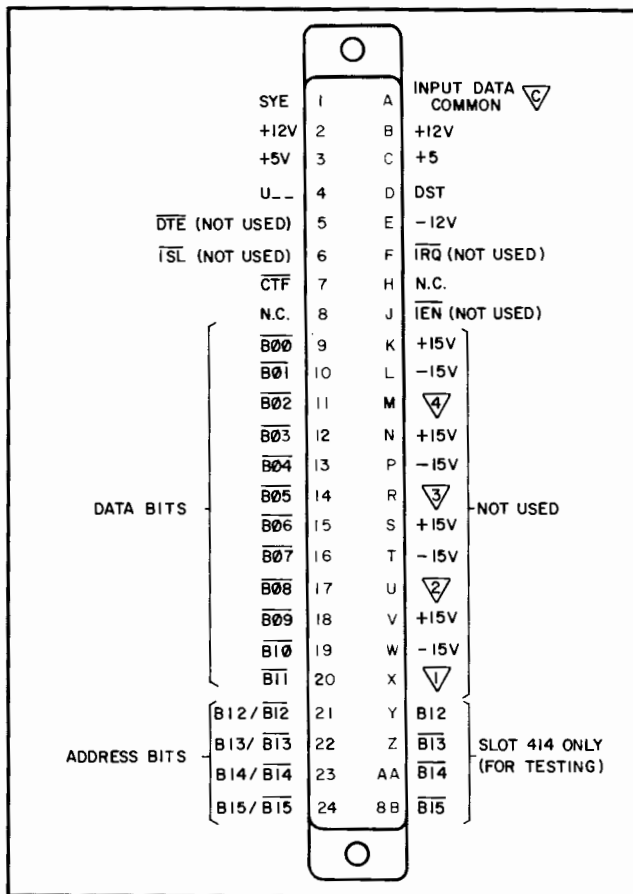

Figure 3-1. Multiprogrammer 400-Series Slot Connector
3-2 The 69335A Stepping Motor Control Card is controlled by the multiprogrammer in which it is installed. Any connector in slots 400 through 414 of the multiprogrammer mainframe can supply dc operating power, address and data bits, and control signals to the card. Figure 3-1 illustrates the signals present on all multiprogrammer 400-series connectors. (The output connector of this card is also used for making some optional input power and input and output signal connections, which will be explained later in this section).
3-10 The second programming step involves a data word which contains a particular slot address in its four most significant bits (bits 12-15) and data (bits 0-11) to be stored on the addressed card. Although both the true and complemented forms of the slot address bits are represented on Figure 3-1 (e. g. B12 and  $\overline{B12}$ ), only one of the two states is present on each of the four address gate lines when the card is installed in a multi-programmer slot. For example, if the output card is installed in slot 405, then bits B12 (1), B13 (2), B14 (4), and  $\overline{B15}$  (8) will be connected to the card's address lines, and all four lines will be HI when slot 405 is addressed.